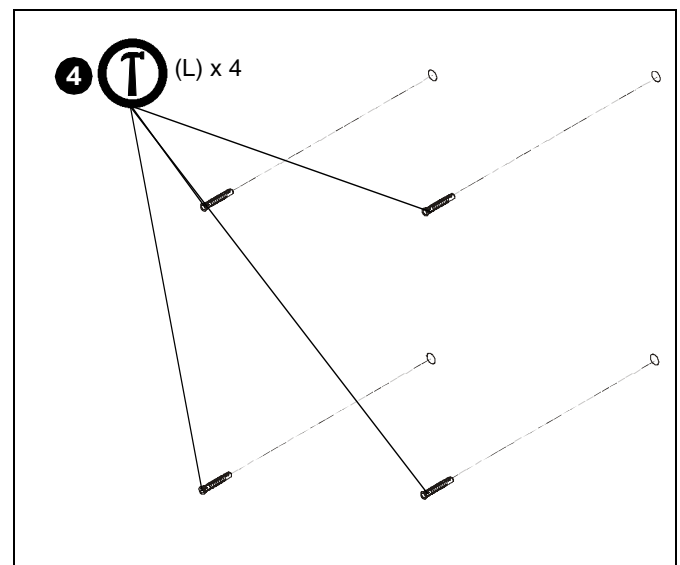

Figure 15
4. Install four U10 anchors (L) into drilled holes. (See Figure 15)